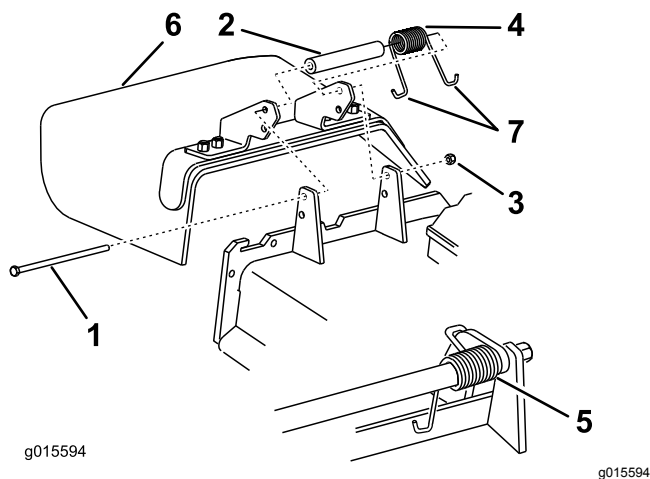

Figure 103
1. Remove the locknut, bolt, spring, and spacer holding the deflector to the pivot brackets (Figure 103).
2. Remove the damaged or worn grass deflector (Figure 103).
Note: Make sure that 1 J-hook end of the spring is installed behind the deck edge before installing the bolt as shown in Figure 103.
- Place 1 J-hook end of the spring around the grass deflector (Figure 103).